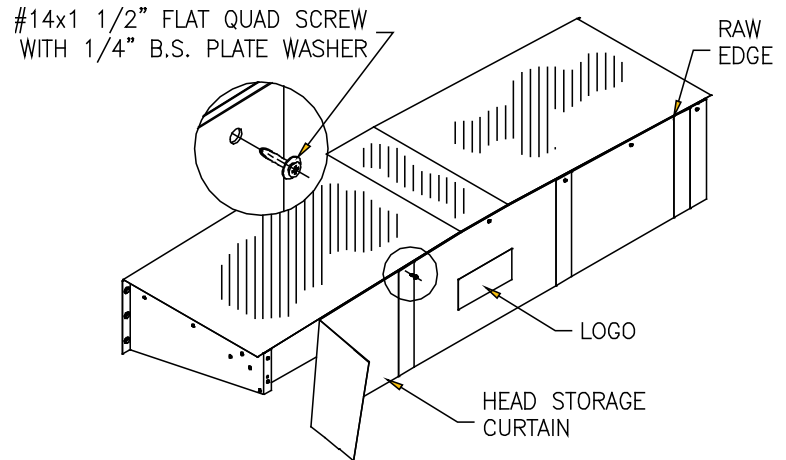

FIG. 13
a. Position and secure head storage curtain (Fig. 13).
- Match top center of head storage curtain with top center of head frame (Figure 13).